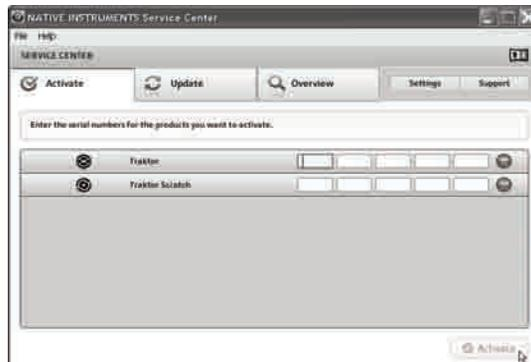

Figure 5.26
- Enter the serial number from the enclosed Traktor LE Serial Number Card and click **Activate**. (Figure 5.26)